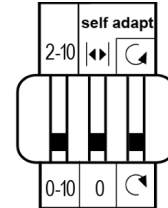

Figure 15. Self-adapt Switch in OFF Position (Factory Setting).
1. To use the entire 0(2) to 10V input signal to control the adjusted range, raise the tab located on the lower left-hand side of the actuator and locate the DIP switches. See Figure 15.